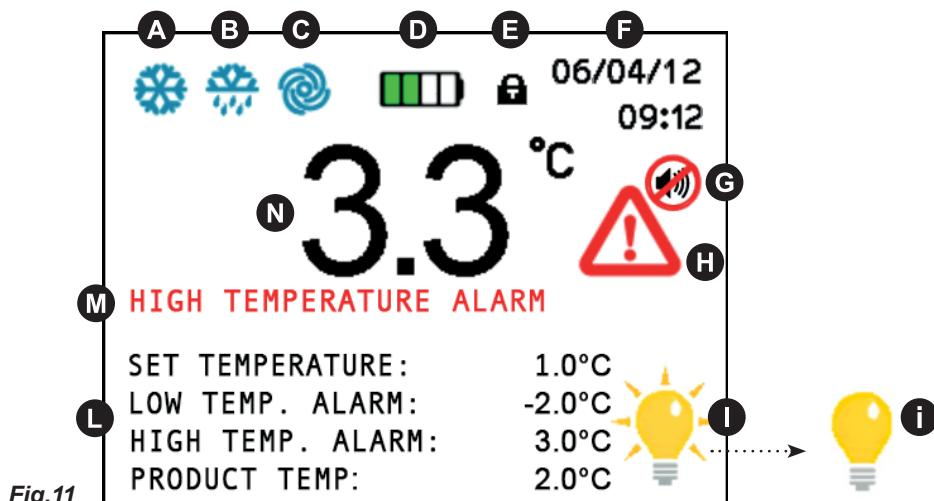

Fig.11
- Display (1). Showing and controlling the temperature and the various machine functioning states
- Capacitive **touch-buttons** (2), (3), (4), (5), (6), (7). Allow various functions according to the OSD (on screen display) menu shown on the display
- **ON/OFF touch-button** (8). Allows the display/appliance switching ON and OFF
- **MENU touch-button** (9). Allows to enter into the main menu
- **HOME touch-button** (10). Allows (if back-lightened) to return back to the home (main) screen-shot
- **ESC touch-button** (11). Allows to return back to the previous menu
- **ENTER touch-button** (12). Allows to enter/confirm the variations made on the function/menu shown on the display
8.1.2 The display (1) and the functioning indications (**Fig.11**)